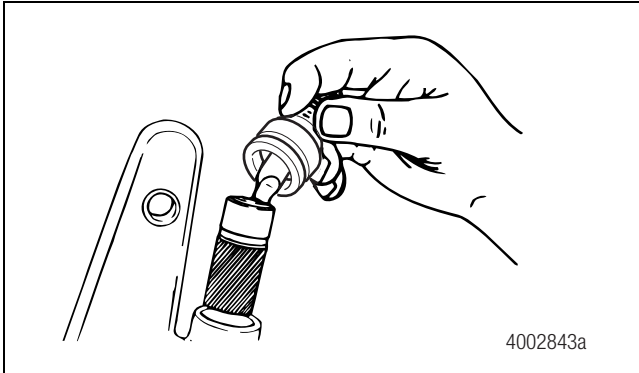

Figure 3.13
2. Remove the boot from the housing. Pull the actuator assembly from the housing. Figure 3.13.